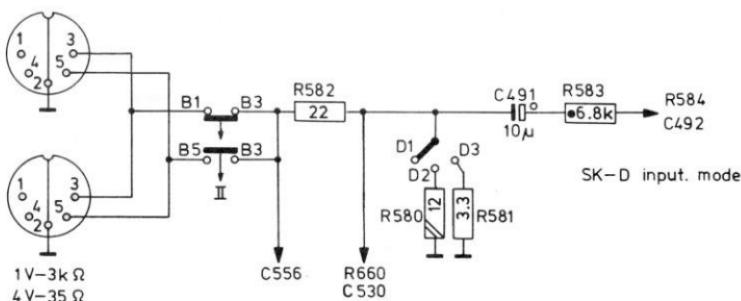

Fig. 2
- The input circuit is changed in accordance with Fig. 2.
- De ingangsschakeling wordt gewijzigd volgens Fig. 2.
- Le circuit d'entrée est adapté à ces transformations, voir Fig. 2.
- Die Eingangsschaltung ist gemäss Abb. 2 geändert.
As from change code PL03 a different relay is used for production reasons. However, this is only temporary. As this temporarily used relay has no make-and-break contact, the circuit has been adapted in accordance with Figs. 2 and 3. The dimensions of the relay are also different. However, the p.c. board has been made compatible, so that both relays can be fitted. However, Service only supplies the relay with the make-and-break contact. However, the dimensions may still differ.